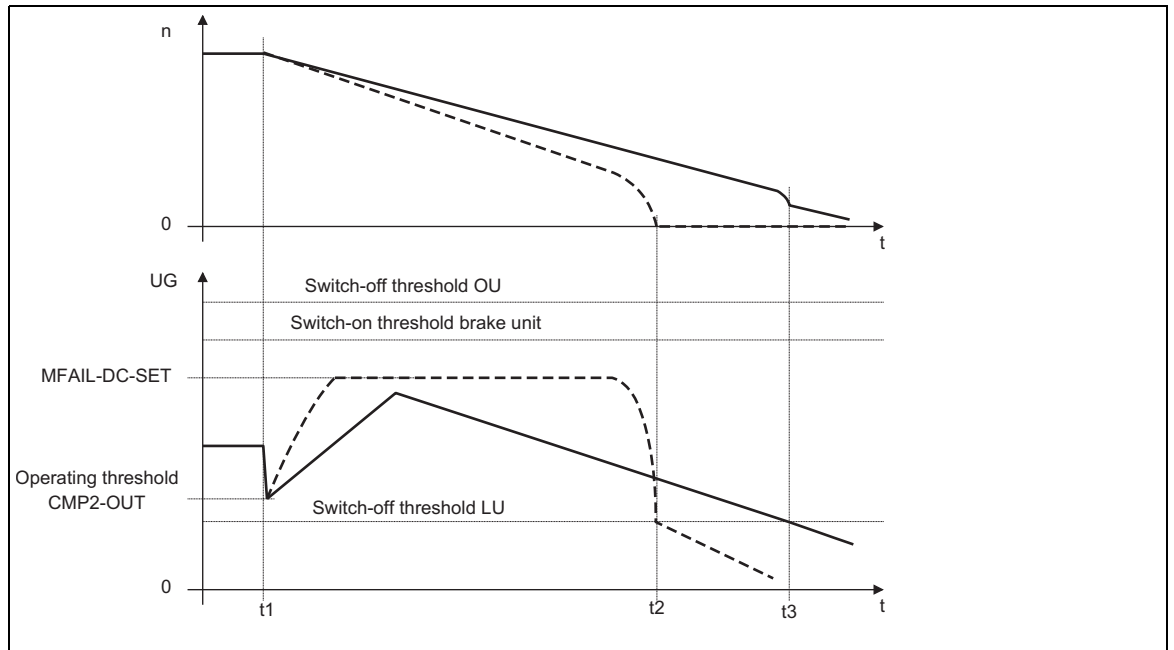

Fig. 3-157
3. Increase of the deceleration time or reduction of the brake torque (see Fig. 3-157) is only possible with restrictions: